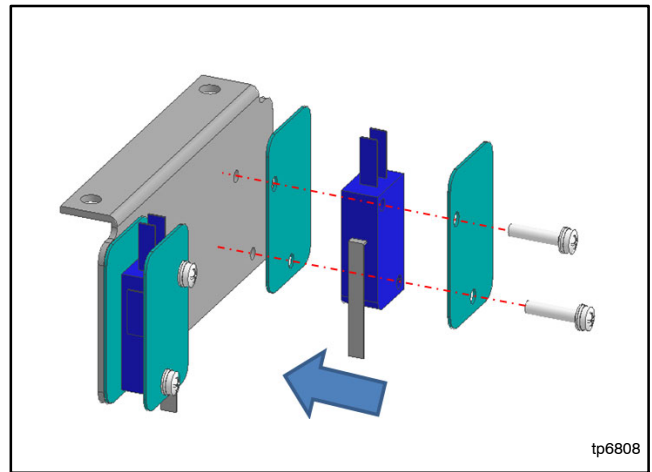
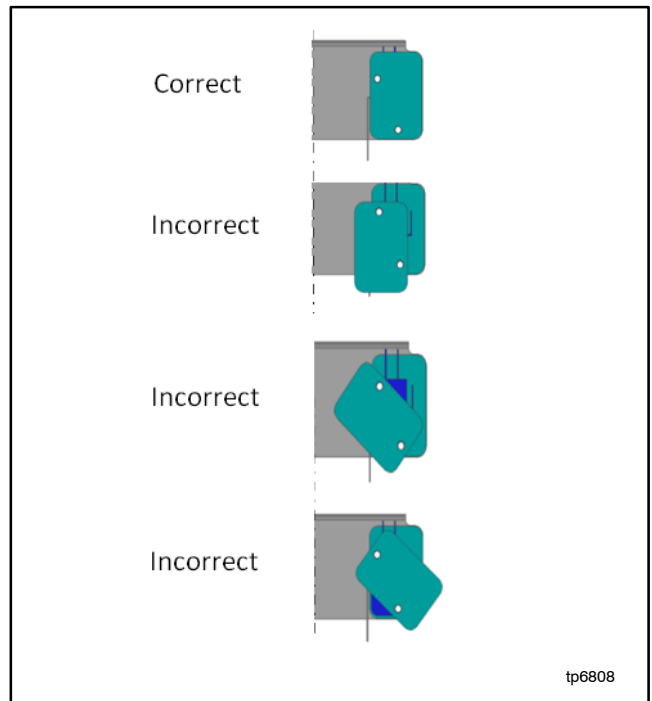

Figure 7-81 Microswitch Assembly
Figure 7-82 Microswitch Separator Orientation
1. Install the two M3 screws after placing a separator, a microswitch, and the second separator in this order. See Figure 7-81. See Figure 7-82 for the correct orientation of the separators.